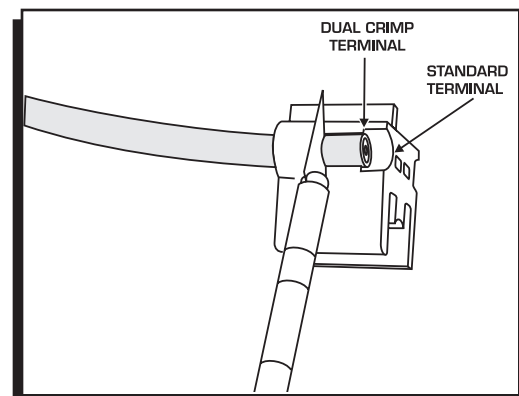

Figure 2 Stripping the Sleeve.
2. There are two stripping positions on the stripping slot, when installing the LS1 terminal it will require you to strip the wire at standard terminal length (Figure 2).